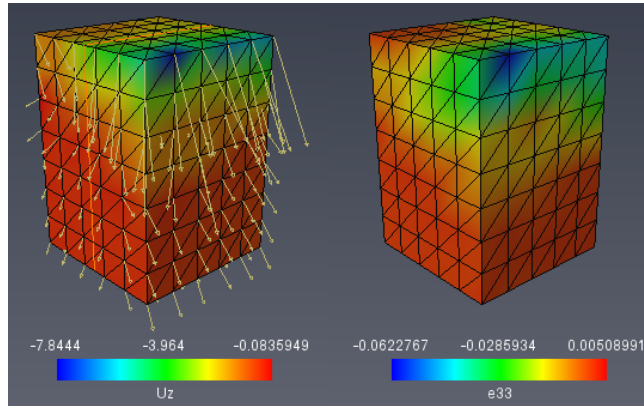

Figure 21.16: 3D visualization of the vertical displacement (left) and axial strain (right)
- To visualize the displacement vectors, connect a *Vector Field* module to *BCI_reference2.disp*. Set the *Scale* port to 25 (open more options on Scale port line and change Max value setting to 25), *Coloring* port to Uniform and select the yellow color from the port Uniform color. (see Figure 21.16).